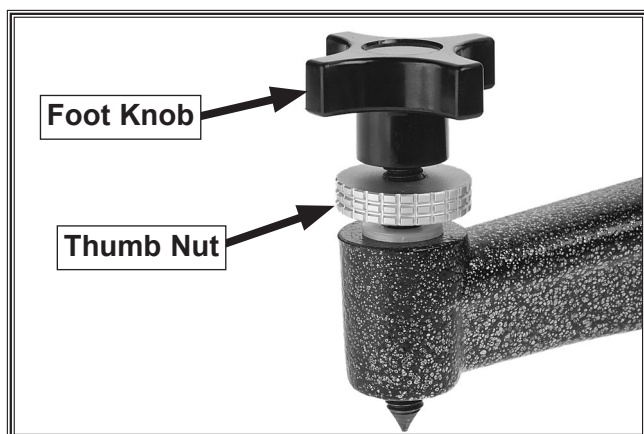

Figure 12. Foot adjustment controls.
2. Adjust base height as desired by rotating the three foot knobs. After setting base height, tighten thumb nut (see **Figure 12**) to lock knob and prevent unwanted movement while shooting.